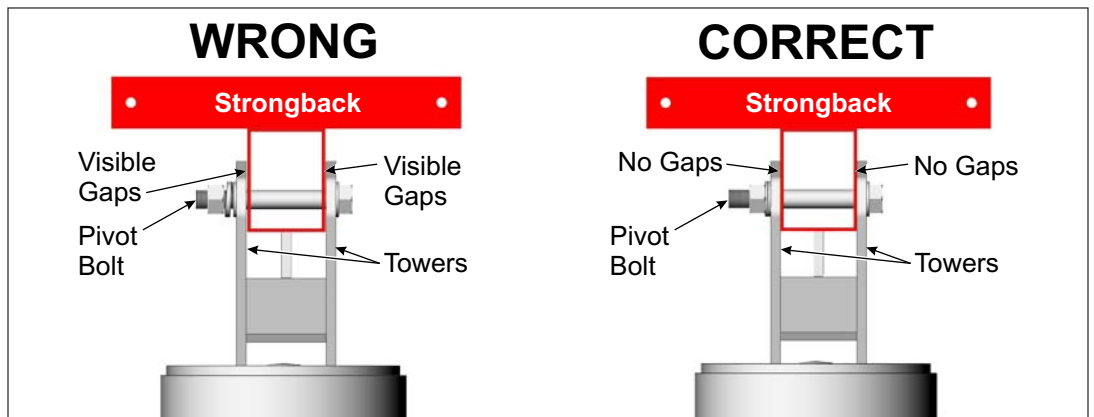

Figure 2-4: Tighten and Torque the Pivot Bolt
G. Return and tighten the Pivot Bolt. The Pivot Bolt cannot be left loose - the Mounting Sleeve Vertical Towers must be firmly clamped to the sides of the Strongback, eliminating any gaps between the Vertical Towers and the Strongback. **Torque to 330-350 ft.-lbs.** (See Figure 2-4)